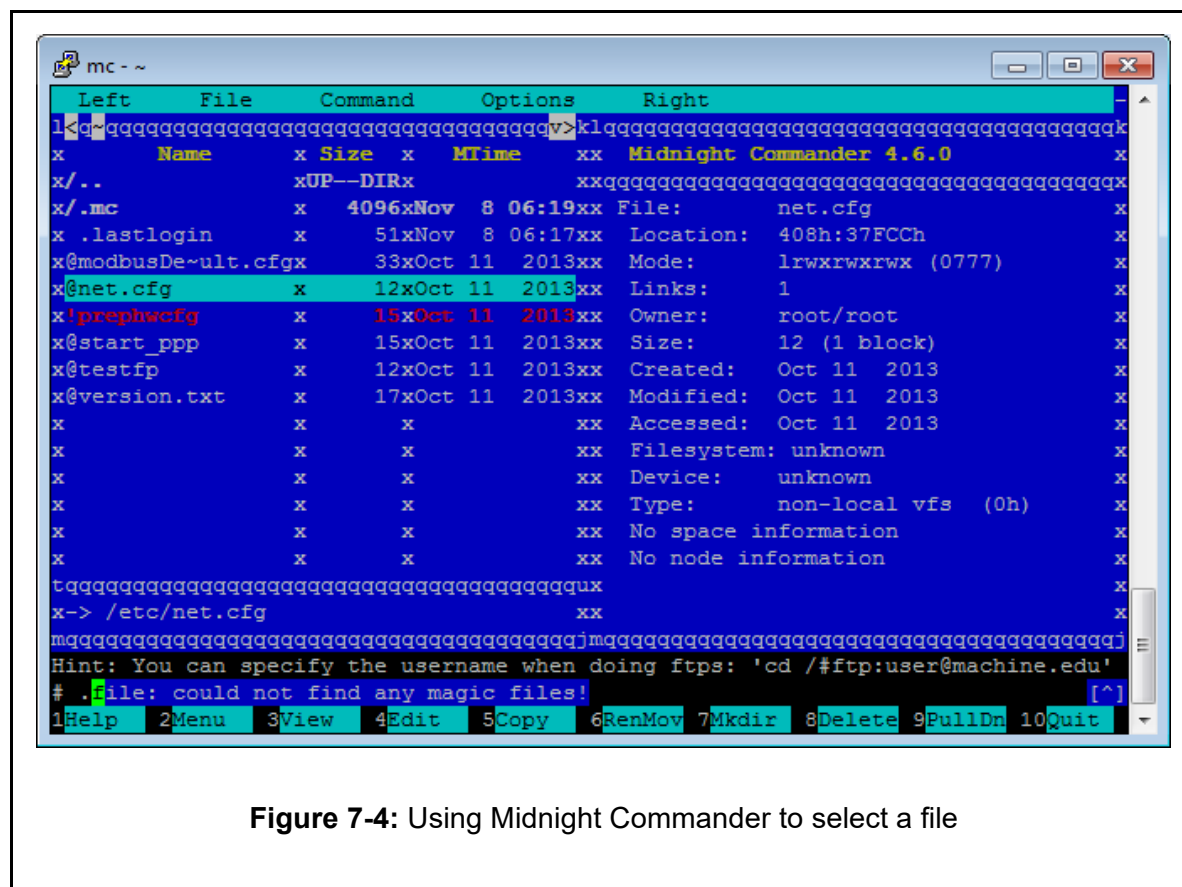

Figure 7-4: Using Midnight Commander to select a file
- 1- In a Midnight Commander directory panel, navigate to the `net.cfg` file, as shown in Figure 7-4 (left).